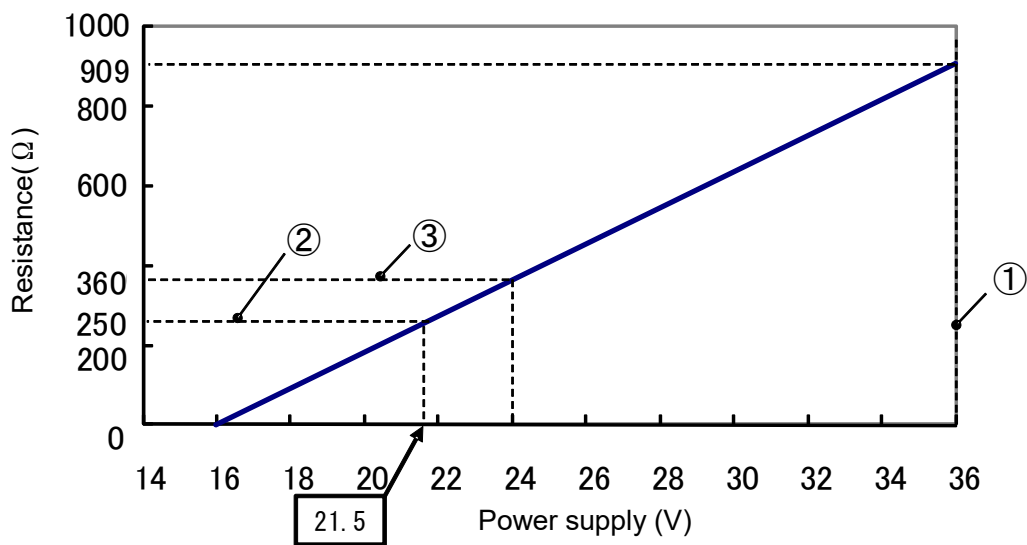

Fig. 3-3 Load resistance
Sample connection for commissioning software through PC is indicated as below Fig.3-3. Any analog recorder can be connected instead of HART modem.
Allowable load resistance is shown in Figure 3-3.
The maximum load resistance value at the maximum supply voltage of this equipment is indicated by ① in Figure 3-3.
The resistor typically used for HART modem is 250Ω ② in Fig. 3-3 shows the voltage (DC21.5V) at 250Ω. In addition, ③ in Figure 3-3 shows a load resistance value of 360Ω at DC24V.